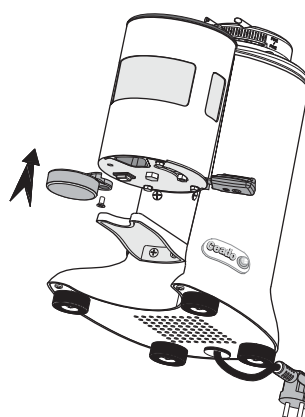

Fig. 10
- 2** Position the press and fasten it with its screw (Fig. 10).